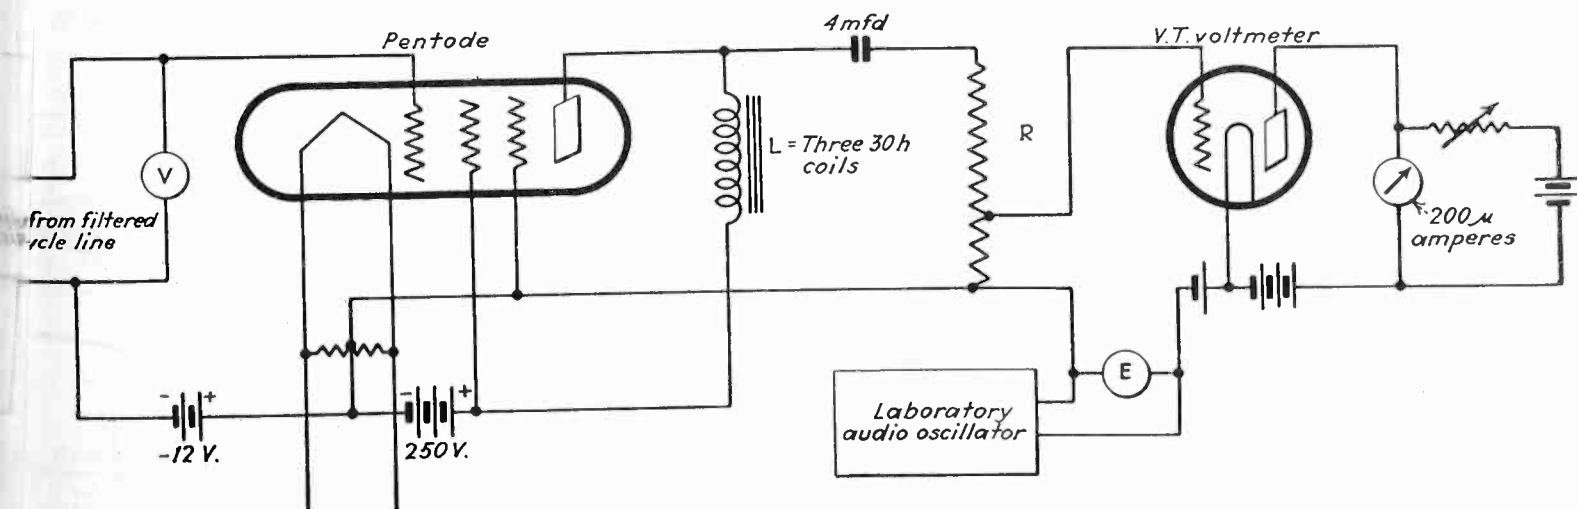
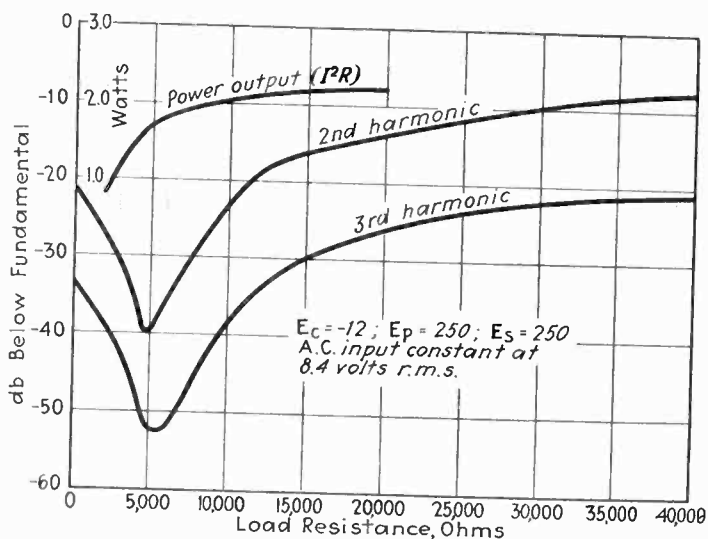

Fig. 3—Circuit used for measuring harmonics from power pentode tube
Fig. 4—Distortion vs. load resistance; power pentode
The data given in Figs. 4 and 5 will give a definite quantitative idea of the voltages and currents involved in harmonic measurements by this method. The data given in these figures were obtained in connection with some measurements on an experimental power pentode tube made by the Arcturus Radio Tube Company. Fig. 3 gives the details of the circuit. Using a 200 microampere meter in the vacuum tube voltmeter circuit it is not difficult to measure harmonic voltages as low as 0.01 volts.
The measurements of distortion as a function of the load resistance were made by applying to the grid an a.c. voltage whose peak value was equal to the d.c. bias (-12 volts) on the grid. With the a.c. input held constant the load resistance was then varied from practically zero up to a value equal to the R_p of the tube, in this case approximately 40,000 ohms. The results of this test are given in Fig. 4. From these curves the best value of load resistance, from the standpoint of minimum distortion, was found to be approximately 5,000 ohms and a second group of measurements was then made with this value of load resistance, varying the a.c. voltage applied to the grid from zero up to 8.4 volts, corresponding to a peak input of 12 volts.
The curves of Fig. 4 are the most interesting since they show the distortion with maximum grid excitation—the distortion will of course be less with any smaller value of a.c. input. These curves show that the pentode power output tube produces a minimum amount of distortion at a definite value of load resistance. This condition is quite different from that found with triodes where the distortion progressively decreases as the load resistance is increased. Under the particular conditions of the tests the second harmonic was more than 26 db
It is not possible however to operate the tube six to one range in load resistance, 1,500 ohms to ohms in this particular case, without a considerable change in sensitivity. The power output (Fig. 4) to fall off at load resistances below 7,000 ohm therefore, in practice the range in load resistance which the tube can be operated will be determined by two factors i.e. (1) loss in sensitivity with low value load resistance and (2) distortion with large value load resistances.
The fact that the curves of distortion vs. load resistance show comparatively large amounts of harmonic distortion suggests the possibility that for practical use of the tube it will be necessary to use them in push-pull. The even-order harmonics will be cancelled leaving only the odd-order components to be considered. The curves of Fig. 4 show the third harmonic is less than 5 per cent (26 db or more below the fundamental) at all values of load resistance up to 20,000 ohms. If we consider the normal power output of a tube to be 2 watts, that a 1 db (25 per cent) decrease in power output is permissible and furthermore that the distortion is not to exceed 5 per cent, the useful range with two tubes in push-pull, will extend from 4,000 ohms up to 20,000 ohms. The 4,000 ohm point is determined by the loss in power output and the 20,000 ohm point by distortion. The maximum permissible range in load resistance is therefore 5 to 1. For comparison triode tubes give a power output not less than 1 db below the maximum undistorted output over a range in load resistance of about 4 to 1. If we consider a 3 db decrease in power output to be permissible then the power pentode has a useful range of load resistance of 8 to 1 and the triode has a range of 1 to 1. It seems therefore that consideration of the practicability of the power pentode boils down to a determination of whether its superior sensitivity and its lower plate power dissipation in comparison with the triode is sufficient to warrant its use in receiver power amplifiers.